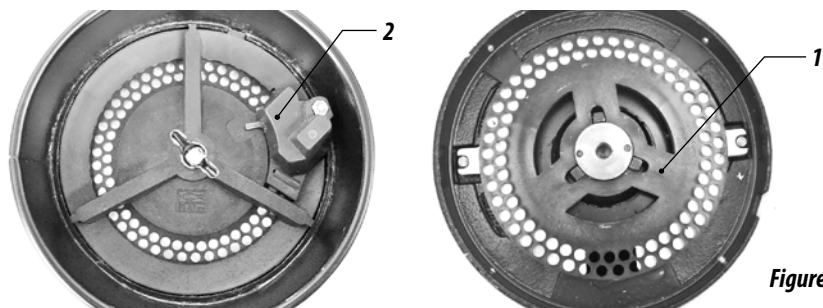

Figure 145
10- At the end of each working day, it is recommended to empty the seed hoppers of the CPD, remove the distribution discs (1) and clean them. Observe the operation of the seed doser (2), checking the pressure of the spring of the triggers, thus ensuring the maximum precision in the seed distribution, figure 145.